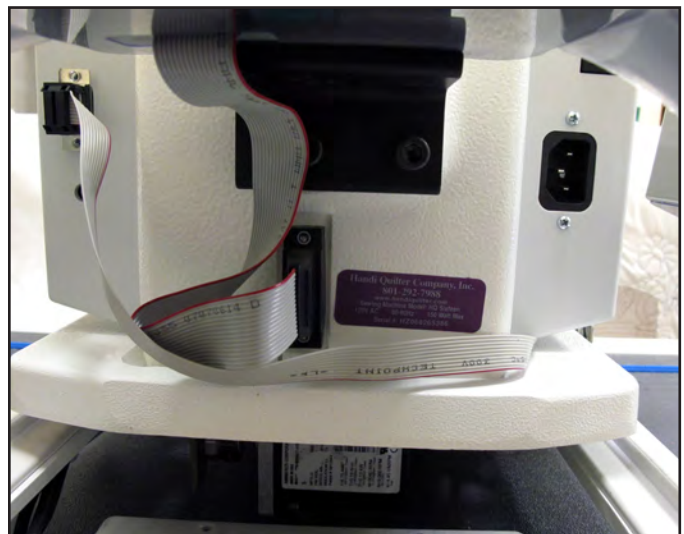

Figure 3.50
10. To prevent the stitch regulator cable from dragging across the motor assemblies during operation, route the final section of the stitch regulator cable around the back of the quilting machine and plug the 9-pin D-sub connector into the C-Pod (**Figure 3.50**).